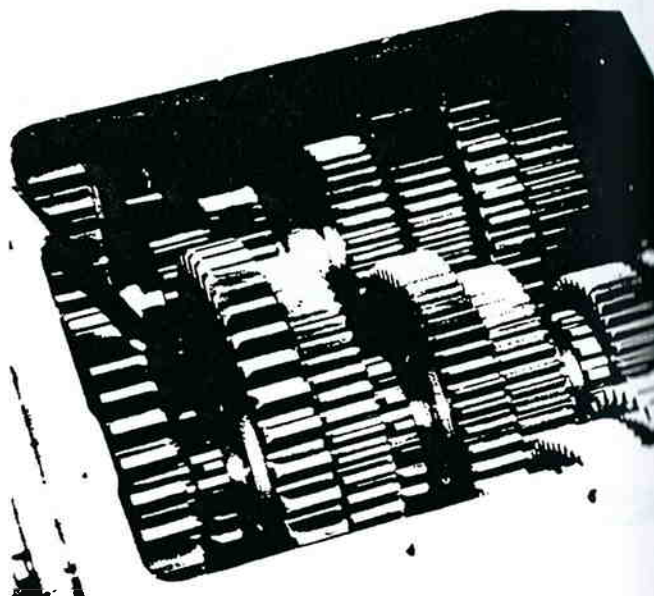

Figure 13-166. Locking Mainshaft.
1. Lock the mainshaft by engaging two speeds with the sliding clutch gears (figure 13-166).